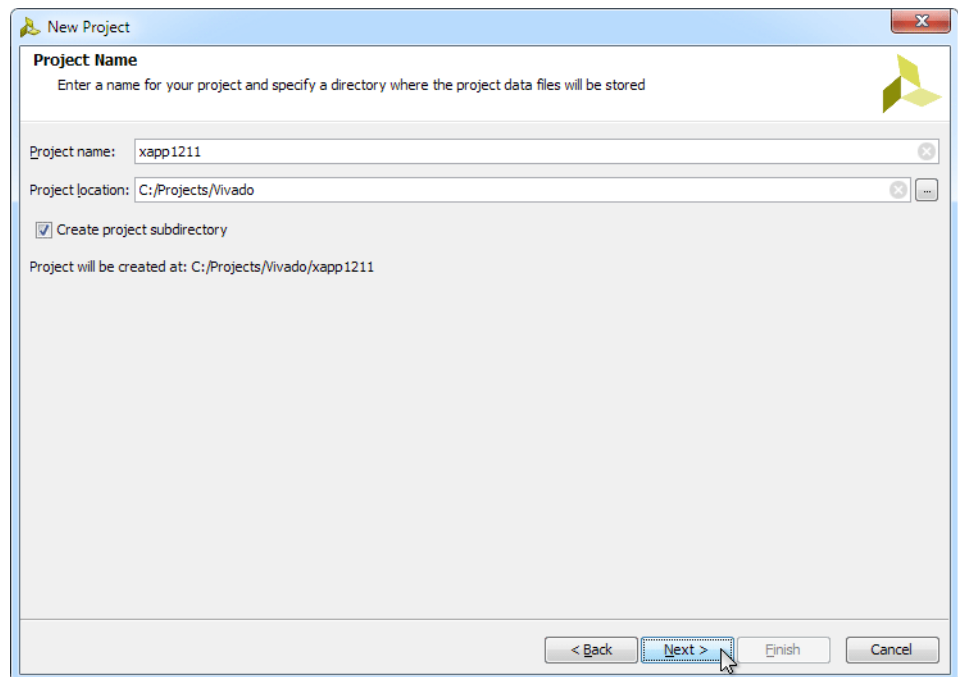

Figure 3: New Project Name
3. Select the project name and path and click **Next** (Figure 3).